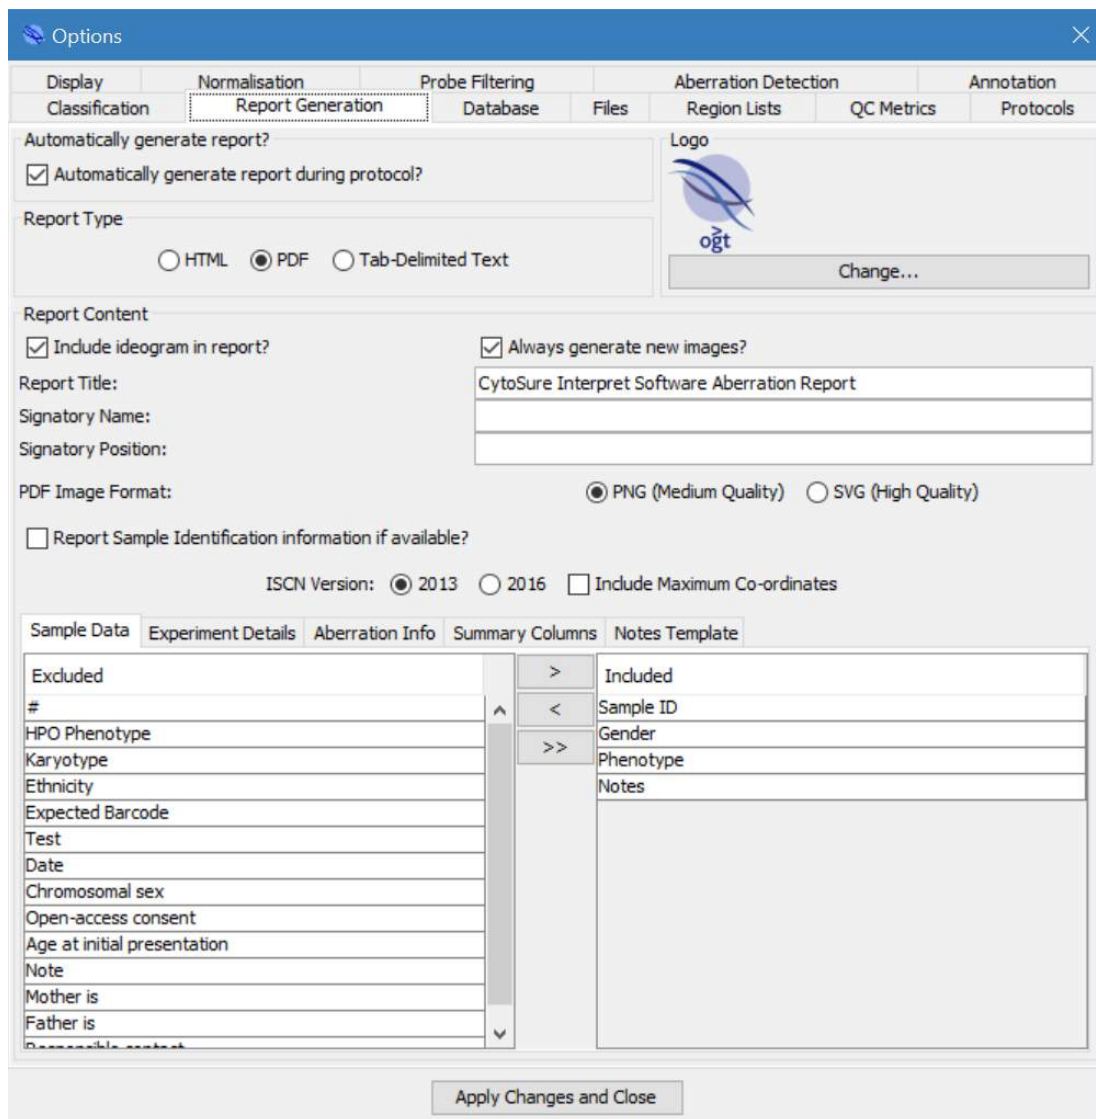

Figure 17: Report Generation tab of Options menu.
The **Report Generation** tab of the **Options** menu contains a number of general options for the reports (**Tools -> Options... -> Report Generation**). As seen in Figure 17, there are two sections of this window which refer to report content: **Logo** and **Report Content**.
The **Logo** section (Figure 17, top right) allows the user to select a logo to display at the top of the front page of PDF and HTML reports. The **Report Content** section (Figure 17, lower half), contains several further options:
- **Data excluded and included** — The lower section of the page is used to specify which details to include in different sections of the report. The **Sample Data** and **Experiment Details** tabs are used to specify which information to include in the section at the beginning of the reports (Figure 17). The **Aberration Information** tab is for information in the **Aberration Details** panels of the report (Figure 19) and the **Summary Columns** tab for columns in the **Table of Detected CNVs** in the reports.